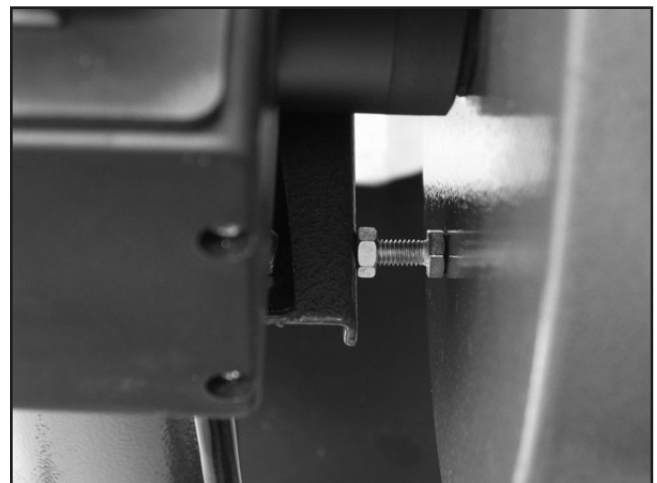

Figure 11. Adjusting collector support plate bolts.
1. Adjust the two hex bolts located on the collector support plate (**Figure 11**) so the bolt heads press against the motor/impeller housing.